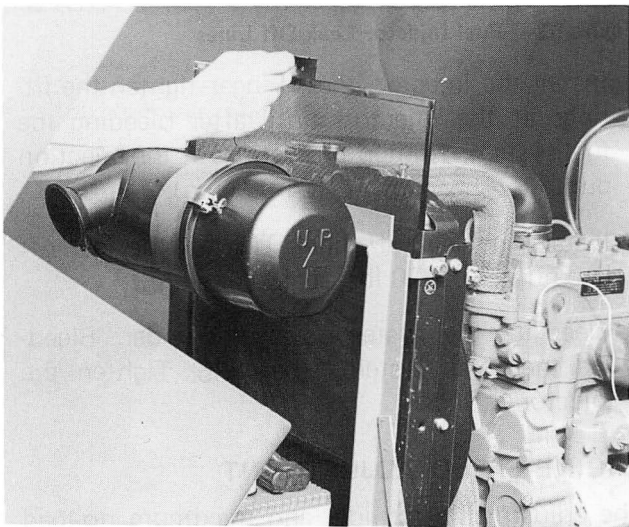

Figure 50 – Radiator Screen
5. Clean the radiator front screen Figure 50.